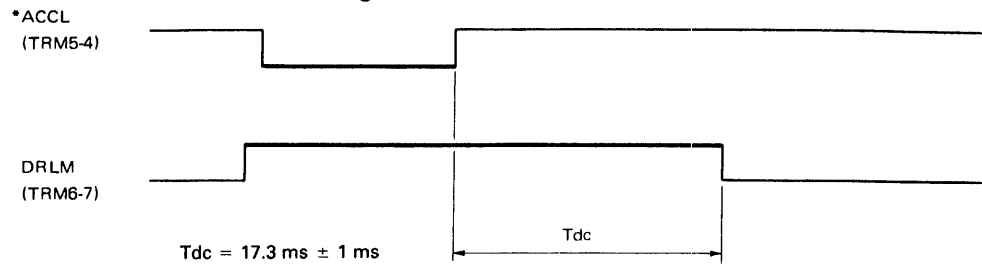

Figure 6-6-6 Positioning Time Adjustment
4. Adjust potentiometer RV3 so that the decelerate time (T_{dc}) is $17.3 \text{ ms} \pm 1 \text{ ms}$. Refer to Figure 6-6-6.